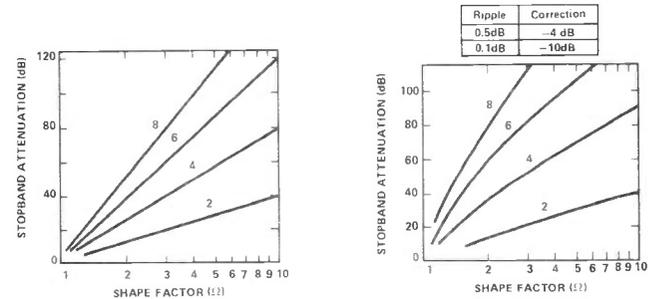

Figure 7: Attenuation Characteristics.
3. Referring to the appropriate attenuation characteristic in **Fig. 7** plot the point for the required shape factor  $\Omega$  against the stopband attenuation. The required order or number of poles will be given by the next curve above the point.
Refer to **Fig. 7** setting the stopband attenuation plus the ripple correction to 64dB. The point corresponding to  $\Omega = 2.53$  shows that the curve  $n=6$  will adequately provide the selectivity required.